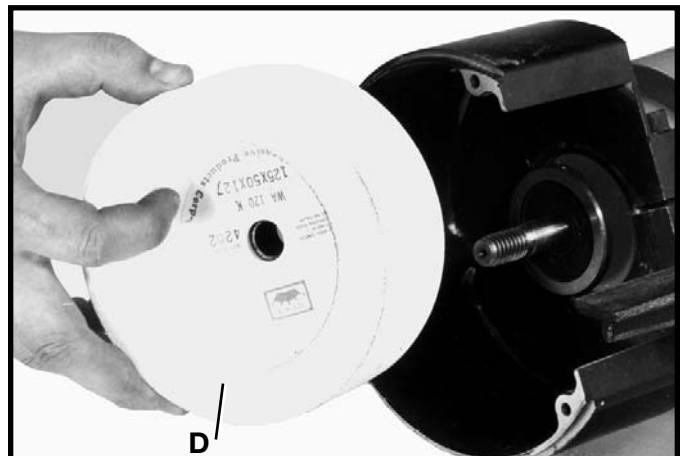

Fig. 62
3. Remove grinding wheel (D), as shown in Fig. 62.